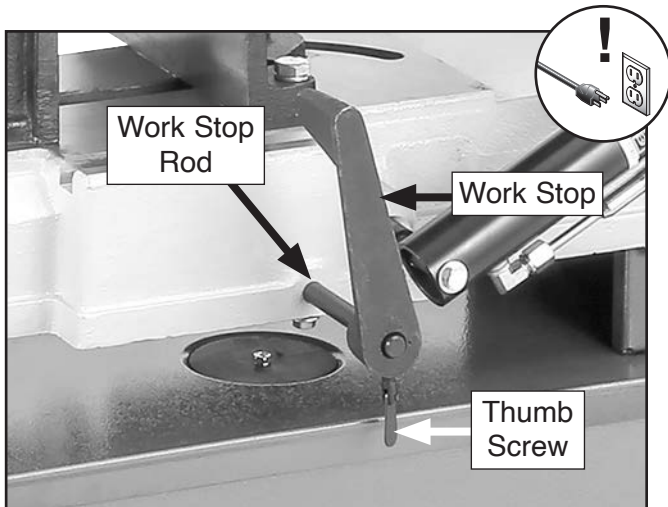

Figure 34. Work stop adjustment components.
2. Loosen thumb screw on work stop (see **Figure 34**), and adjust work stop position on rod as needed for workpiece, then tighten thumb screw to secure.